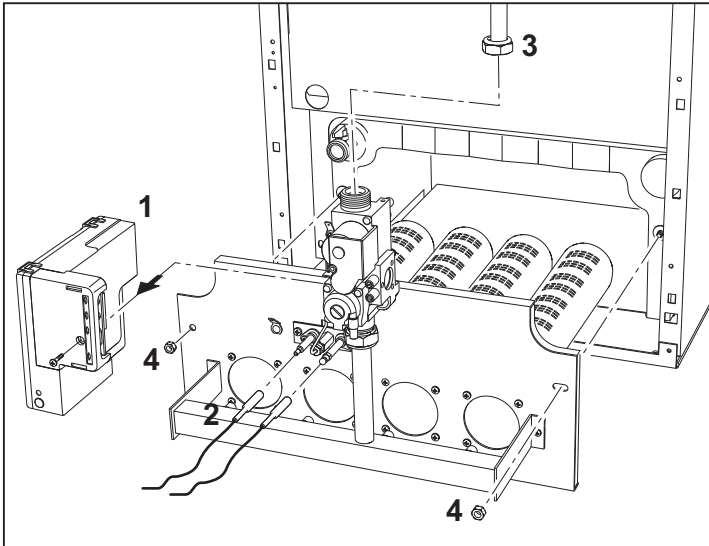

fig. 7
2. Remove the **gas valve** electronic controller "1" (fig. 7);